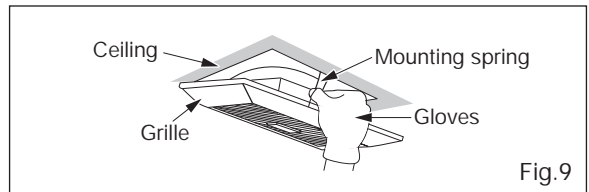

Fig.9
13. Insert the other mounting spring into the slot as shown and mount grille to fan body. (Fig.9)